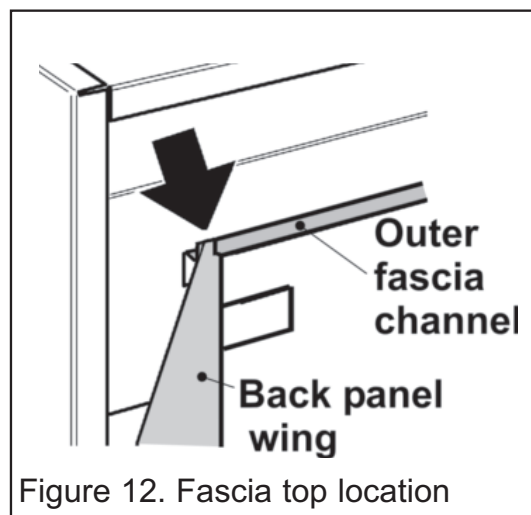

Figure 12. Fascia top location
- Place the fascia over the engine. Make sure that the channel near the top of the rear of the fascia locates fully into the wings of the engine back panel (See figure 12).